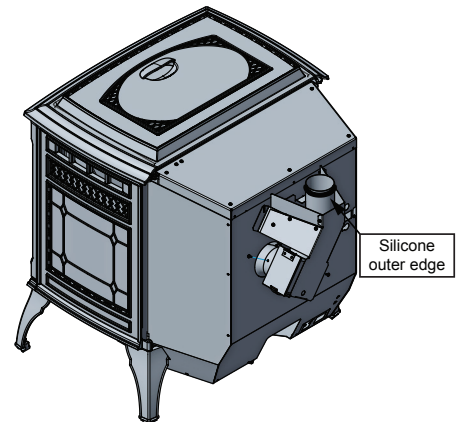

Figure 5
- Put a 1/4 inch bead of silicone on the outer edge of the Top Vent Adapter (**C1**) exhaust outlet (**Figure 5**). Following venting manufacturing instructions, install stove pipe to Top Vent Adapter (**C1**). (**NOTE: Appliance adapter from venting manufacture may be required.**) Do not apply silicone inside appliance exhaust outlet.